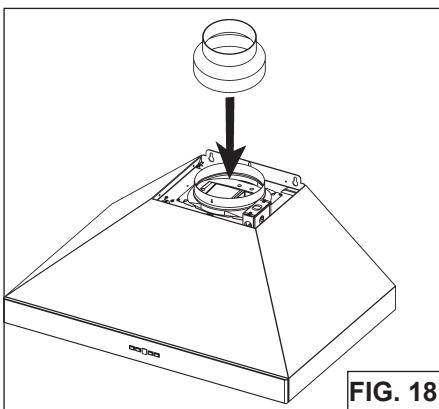

FIG. 18
1. Attach the 6"-to-8" adapter to blower discharge and tape joint with aluminum duct tape (Fig.18).